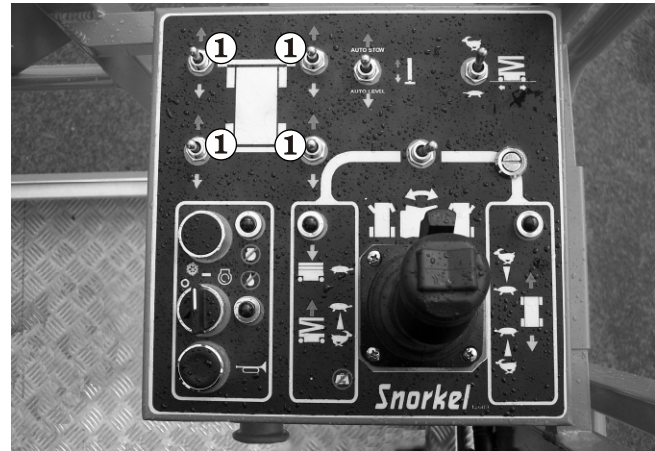
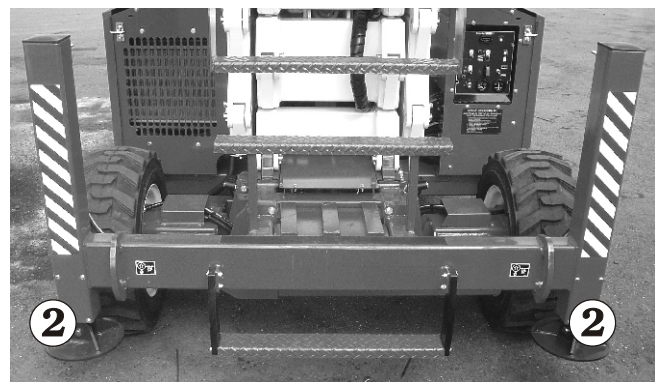

Figure 8.20
Figure 8.21
2. Pull and hold the **Stabiliser** switches ① (see Figure 8.20) backward, one (1) at a time, until all four (4) stabiliser pads ② (see Figure 8.21) contact the ground.